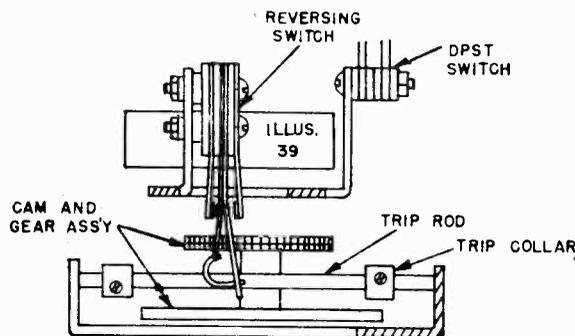

Fig. 3
3. The reversing switch is open. (See Fig. 3)
- a. The switch is fouled on the trip rod. (See Fig. 3)
- b. The trip collars are improperly positioned. They should reverse the motor just before the cam follower reaches the point of the cam. (See Figs. 3 and 6)
1. The reversing switch is fouled on the trip rod. (See Fig. 3)